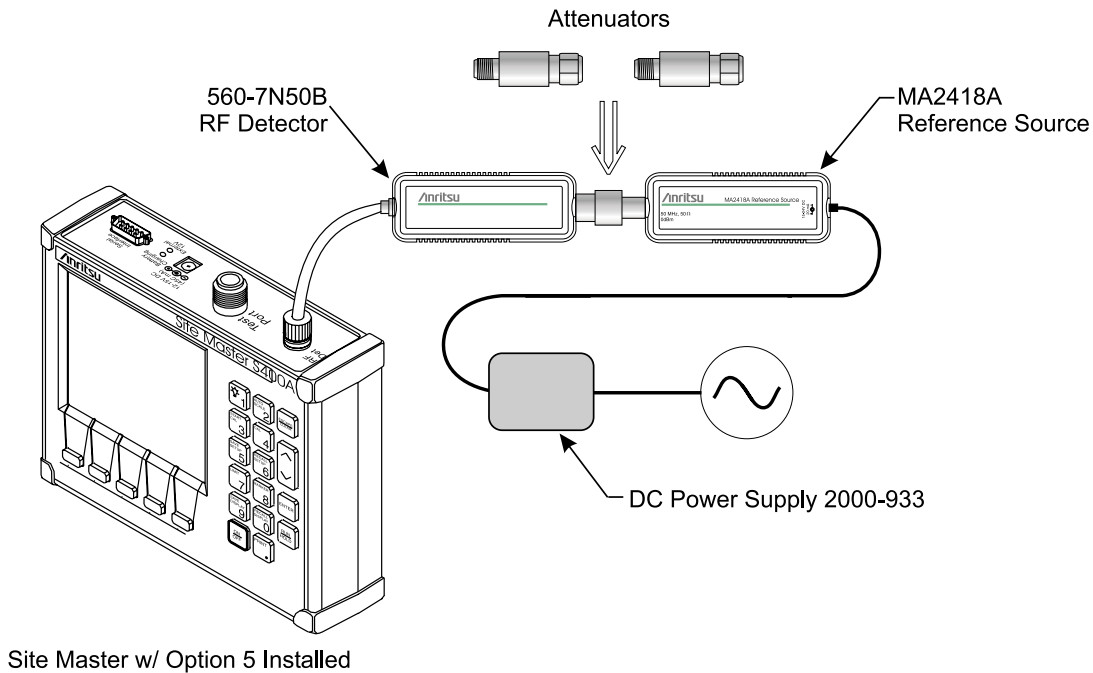

Figure 3. Power Monitor Verification Test Setup
1. Connect the DC Power Supply to the MA2418A Reference Source. (Refer to Figure 3 on the following page.)
10. Connect the two Attenuators to the output of MA2418A Reference Source so as to add 40 dB of attenuation (Figure 3).